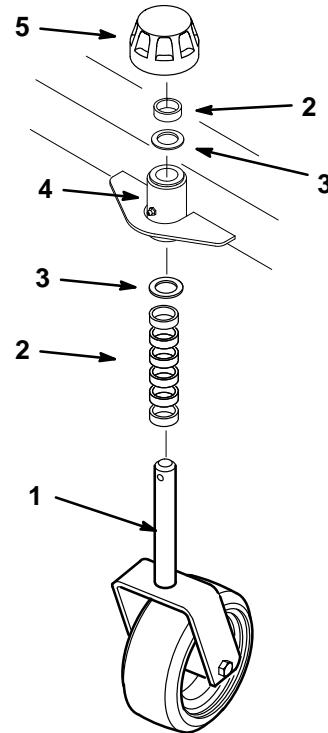

Figure 12
3. Remove the cap securing the castor spindle to the frame bracket (Fig. 12).
4. Move desired amount of spacers to the top or bottom of the bracket (Fig. 12). Ensure that the spacers are equal on both castor wheels and that a thrust washer is positioned on each side of the frame bracket.
5. Install the cap and lower the broom (Fig. 12).